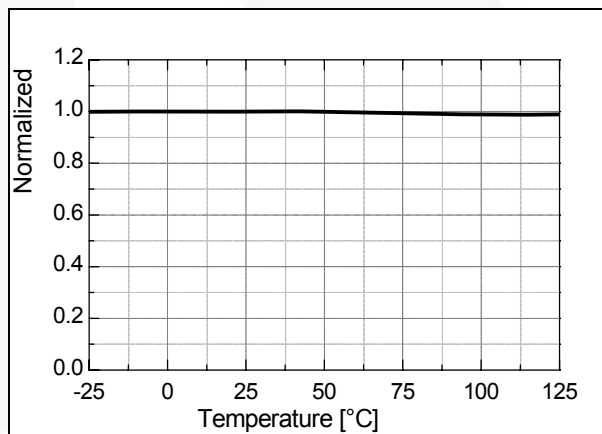

Figure 22. Burst-Mode High Threshold Voltage ( $V_{burh}$ ) vs.  $T_A$
**1. Startup:** At startup, an internal high-voltage current source supplies the internal bias and charges the external capacitor ( $C_a$ ) connected to the  $V_{CC}$  pin, as illustrated in Figure 22. When  $V_{CC}$  reaches 12V, the FPS™ begins switching and the internal high-voltage current source is disabled. The FPS continues its normal switching operation and the power is supplied from the auxiliary transformer winding unless  $V_{CC}$  goes below the stop voltage of 8V.